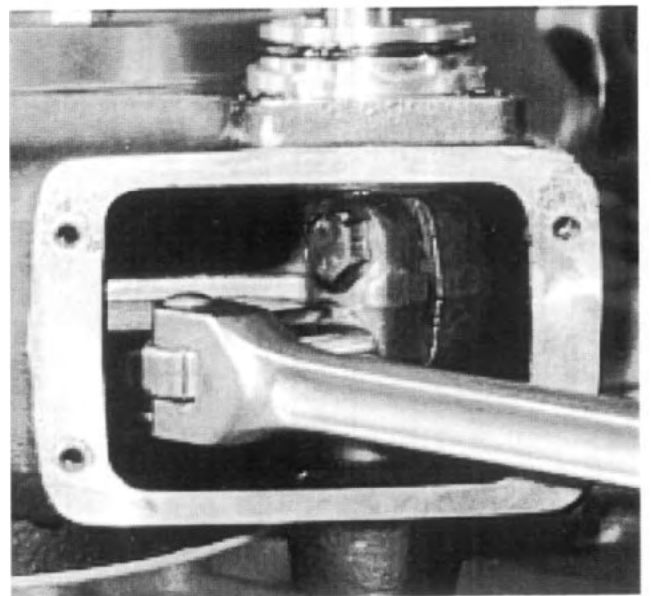

Fig. 14
15. Remove and discard the lock wire on the shift fork assembly. Loosen, but do not remove the two (2) bolts. *See Fig. 14.*